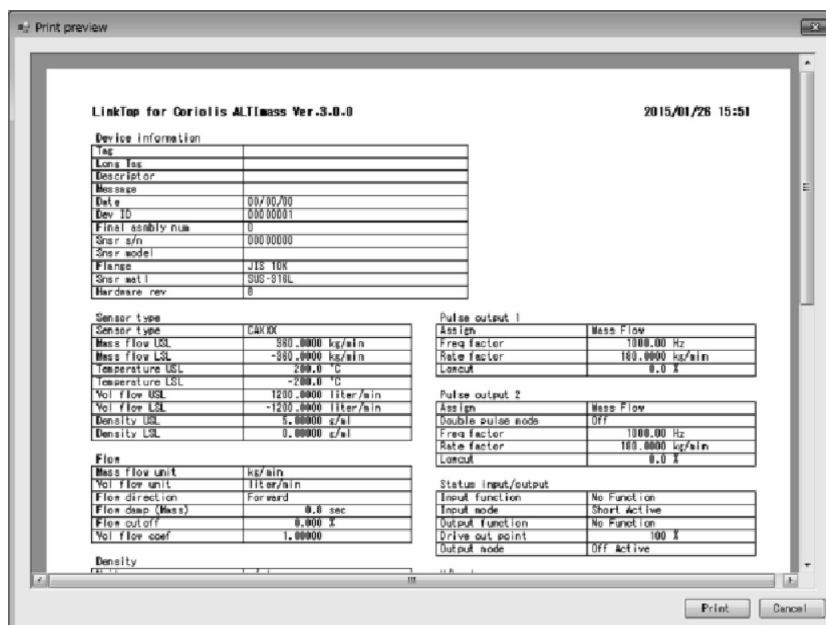

Fig.185
- ④ The following window will be displayed (Fig. 185). Verify the various parameter values here, and either click the "Print" button to print, or the "Cancel" button to not print.